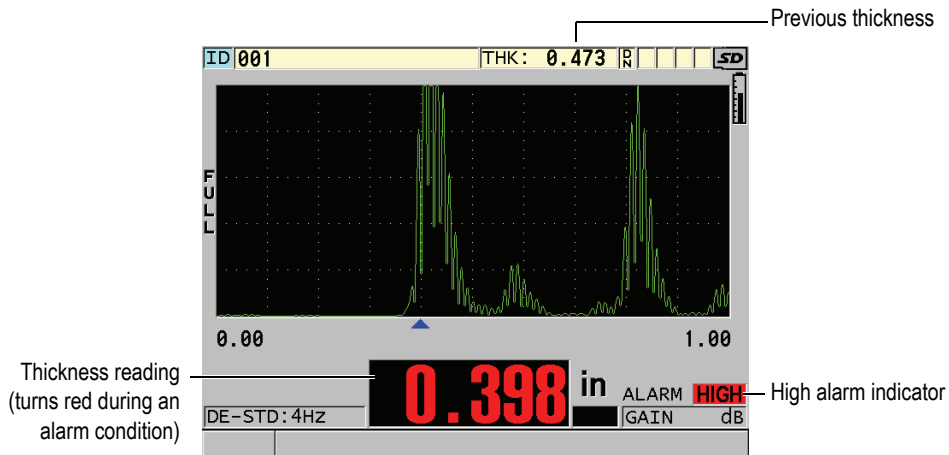

Figure 8-4 Example of a HIGH alarm indicator
- The **HIGH** or **LOW** alarm indicator flashes with a red background at the bottom right corner of the measurement screen (see Figure 8-4 on page 114).